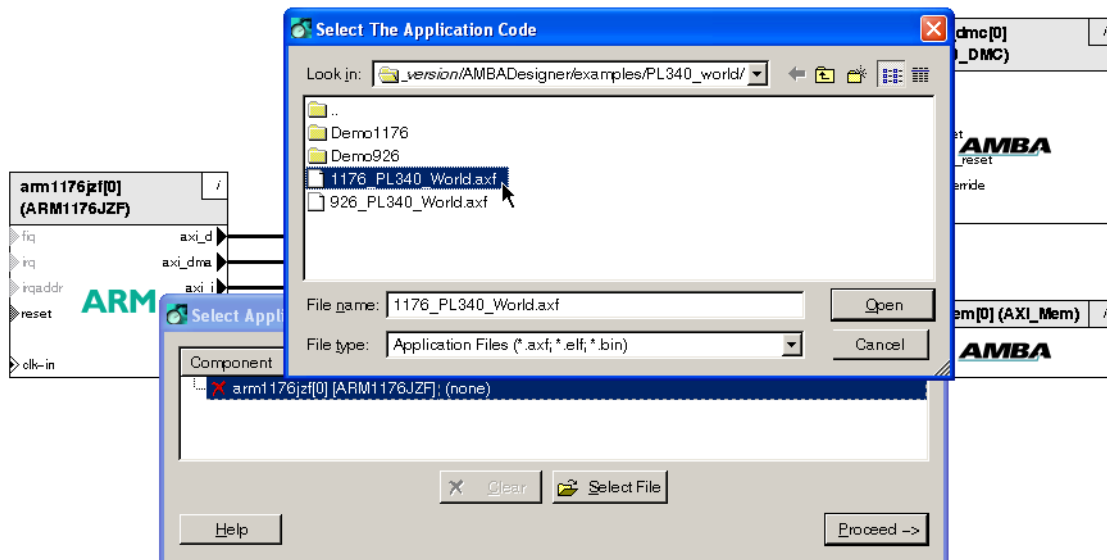

Figure 7-9 Selecting the application code
5. Select the 1176_PL340_World.axf file, as Figure 7-9 on page 7-8 shows.